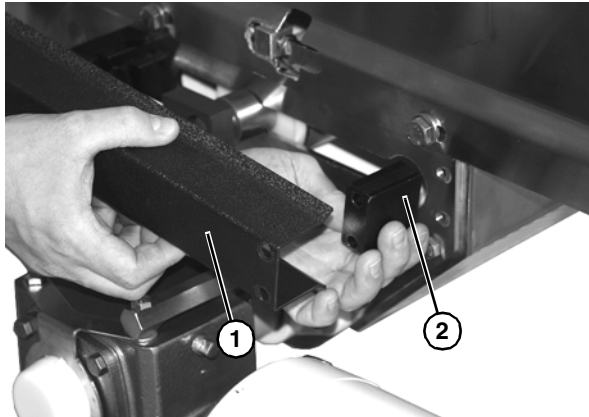

Figure 35
5. Remove cover (**Figure 35, item 1**) and spacer (**Figure 35, item 2**) from conveyor frame.